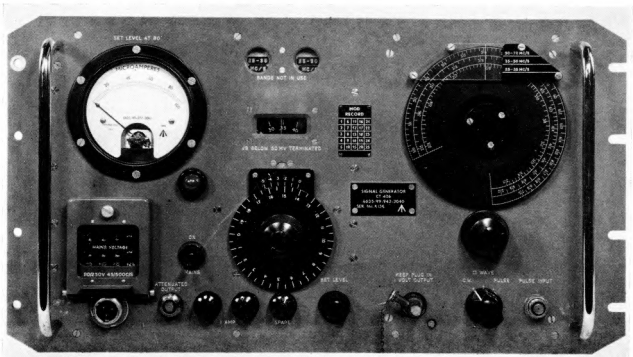

Fig. 1. Signal generator CT406: front panel
### Brief description (fig. 1)
- (1) Disconnect the power supply, then remove the case by releasing the two Dzus fasteners (turn 90° counter-clockwise) at the top.
- (2) Spring open the large clips on the screening box and remove the lid.
- (3) Select the oscillator coil covering the frequency range required. Unplug the oscillator coil in circuit and replace with the one selected. Stow the unused coil so that its frequency range shows through the front panel window.
- (4) Remove the inner screening box lid, then unplug transformer in circuit and replace with the transformer covering the same frequency range as the oscillator coil. Stow the unused transformer in the space vacated by the transformer to be used.
- (5) Replace the lid of the inner screening box. Replace the lid of the outer screening box and refit the case.
- (6) Reconnect the power supply.
**Operation***Controls (fig. 1)*